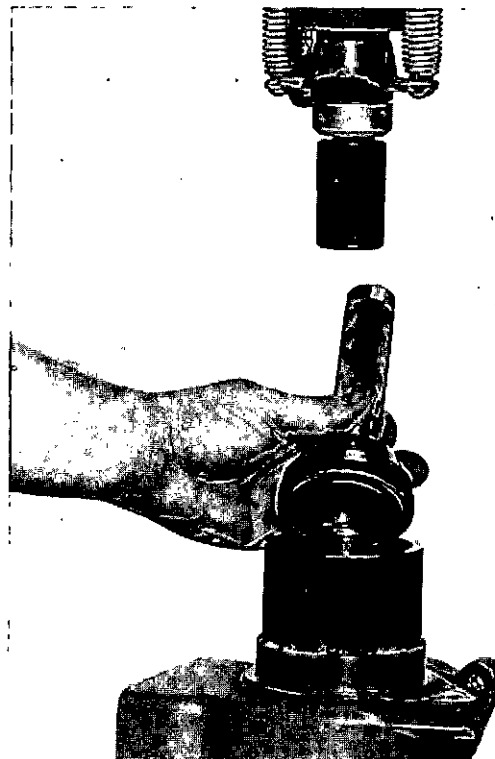

Fig. 8-29 (N10872). Install The Seal Into The Housing.
6. Support the water pump housing at the impeller side of the housing. Install the larger grease seal. Use the Part No. ST-1161 Seal Driver to install the seal, Fig. 8-29.